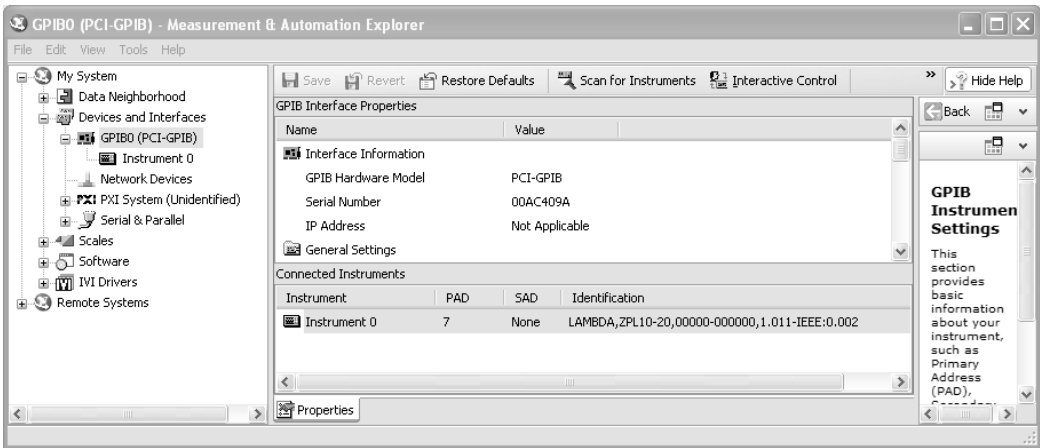

Fig.5-1: Scanning for Instrument
2. Select “Devices and Interfaces” -> “GPIB0” press Scan for Instruments. Refer to Fig.5-1